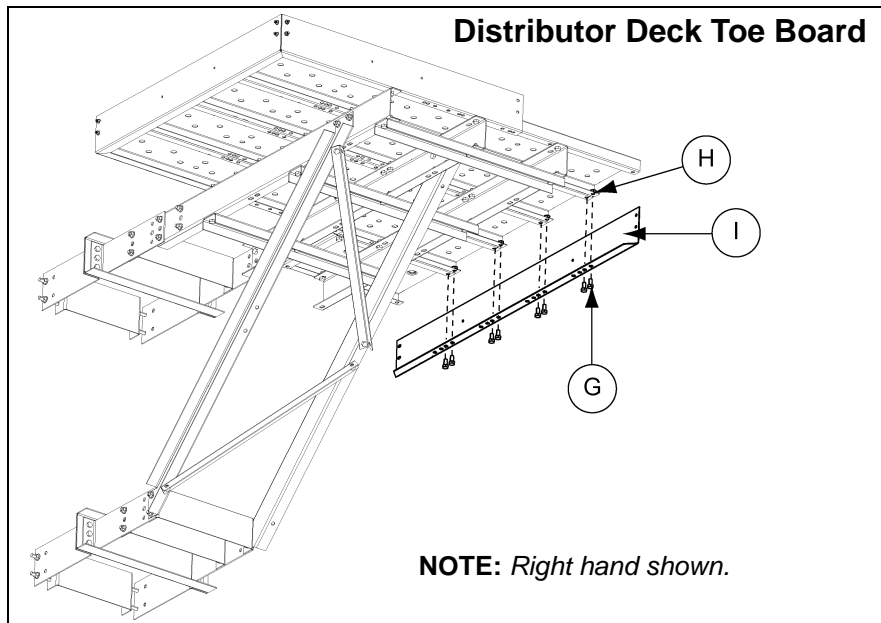

Figure 10J 16" Distributor Platform Toe Board
3. Attach the flange of the toe board short side to the bottom of the 18" decking using two (2) 1/2" x 1" bolt and nuts. Then attach 18" decking to the external platform support using one 1/2" x 1" bolt and nut. *(See Figure 10J on Page 80.)*